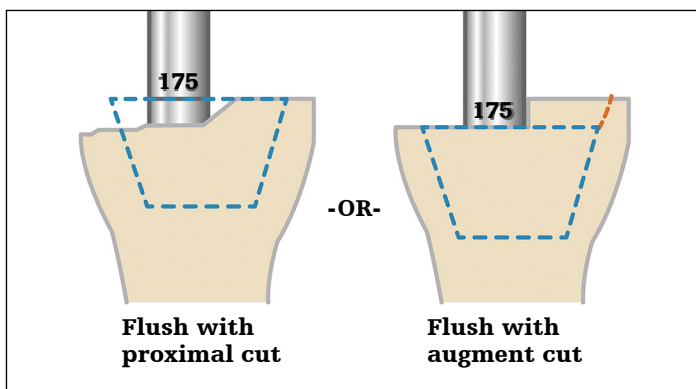

Figure 49
► **Note:** If Tibial Augments are to be used, ream until the 175mm marking is flush with the augment cut. Use the bottom of the 175mm line marking as the depth reference. See **Figure 49**.